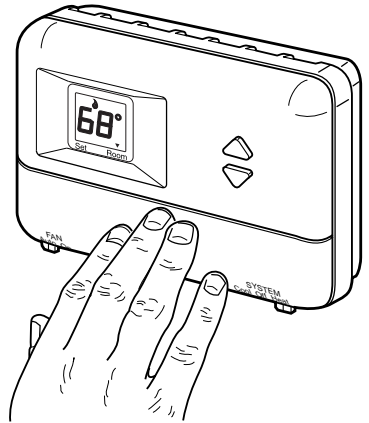

Fig. 11. Mounting thermostat wallplate.
2. Swing down the thermostat and press the lower edge of the thermostat onto the wallplate to latch. See Fig. 11.